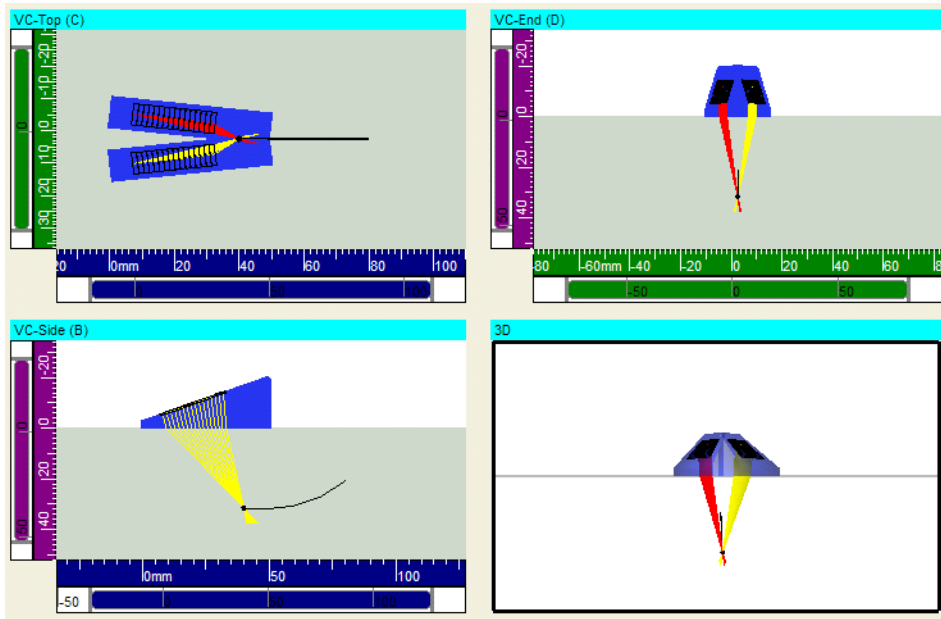

Figure 4-28 Autofocalization for pitch-and-catch configuration
- **Auto:** the focalization depth is automatically calculated in order to have the transmitter and the receiver focused at the same point in space. The focalization is thus made at the geometrical intersection of the transmitter and the receiver central rays (see Figure 4-28 on page 60). This option is only applicable for pitch-and-catch configurations.